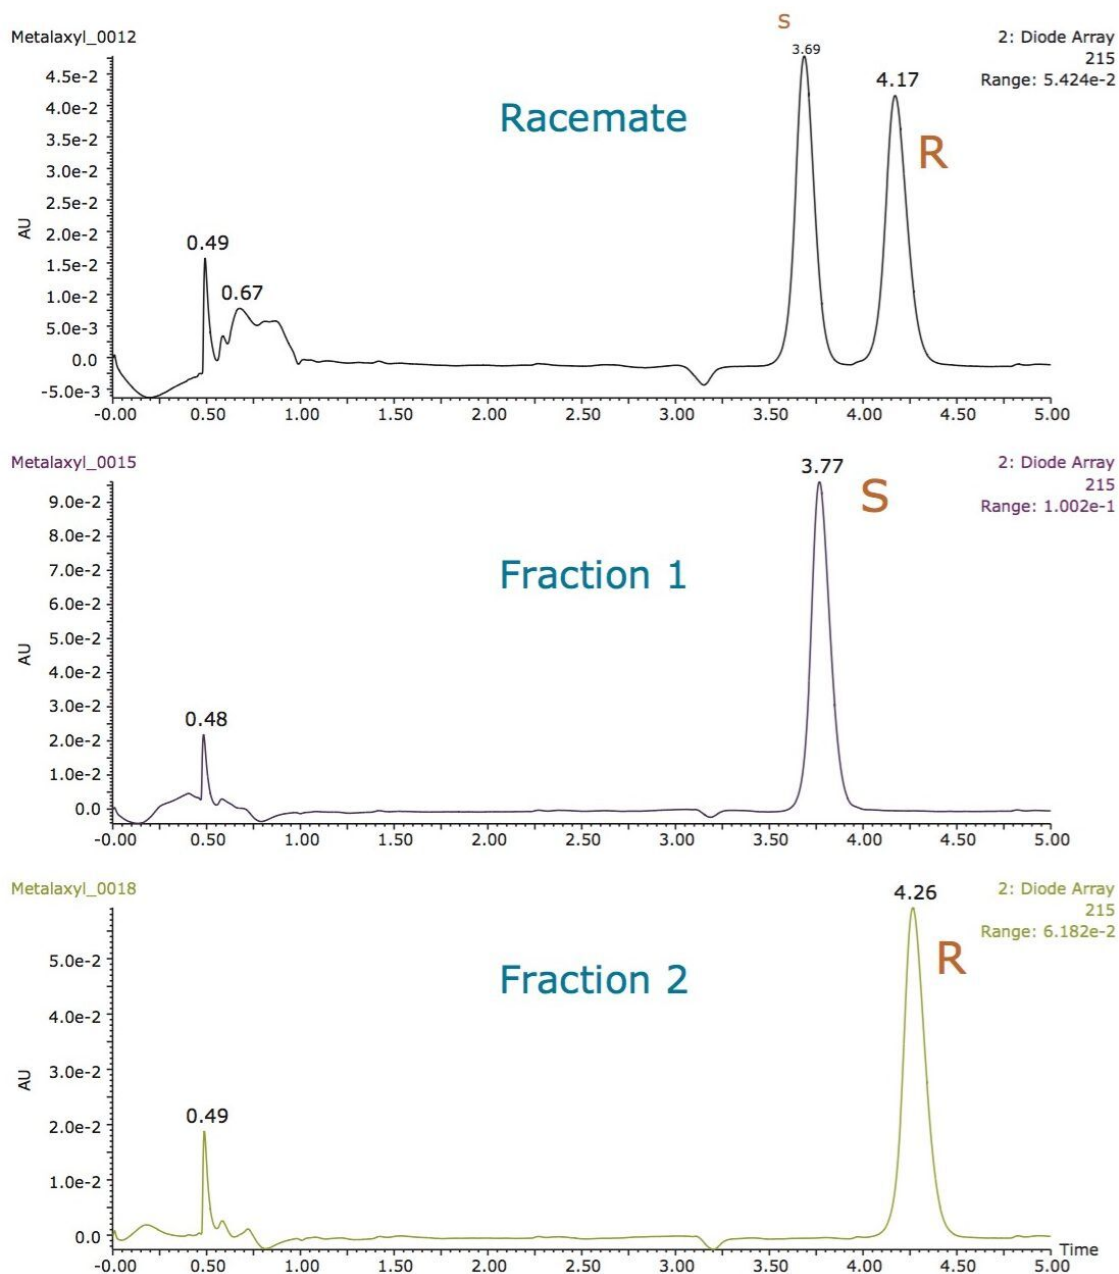

Figure 5. Analytical SFC chromatograms of the collected fractions showing >99% enantiomeric purity.
Sample purification was confirmed by analyzing the two collected fractions using the UPC² isocratic analytical method and the resulting chromatograms are shown in Figure 5. Both fractions showed >99% purity. Absolute configurations were assigned using a commercially available standard of metalaxyl-M (the (R) isomer).